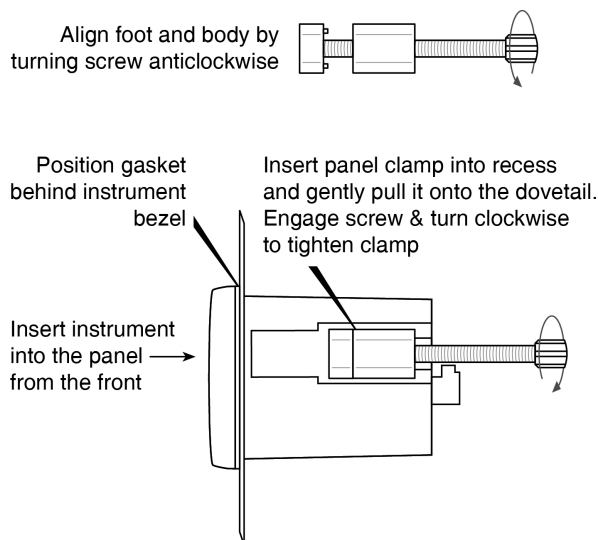

Fig 4 Fitting panel mounting clamps
- Place a clamp in the recess on each side of the Rate Totaliser, pulling gently to slide it onto the dovetail as shown in Fig 4. Push the knurled screw slightly forward to engage the thread and tighten by turning clockwise until it is just finger tight. When the clamps are fitted ensure that the gasket behind the front panel bezel is correctly positioned before fully tightening the clamps to secure the instrument. The maximum recommended clamp tightening torque is 22cNm (1.95 lbf in) which is approximately equivalent to finger-tight plus one half turn. **Do not over tighten.**